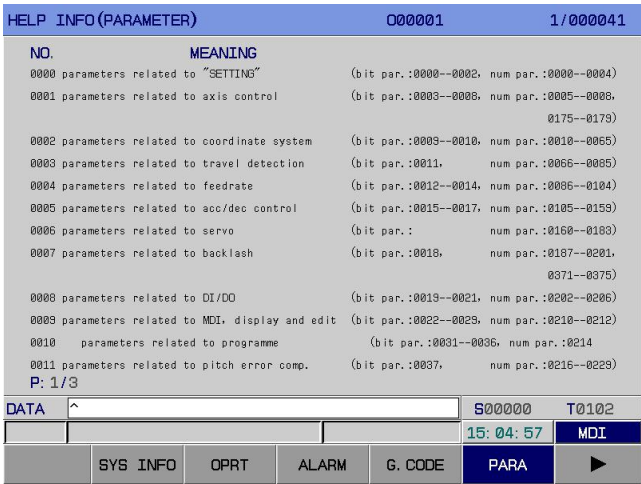

Fig.3-9-6
5. Parameter list interface: On <Help> interface, press [Parameter List] to enter the help information (parameter/diagnosis table) interface, as shown in Fig.3-9-6: